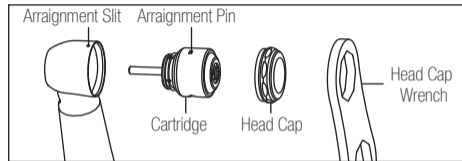

Fig. 9
- 6) Turn the Wrench clockwise and mount the Head Cap. (Fig. 9)